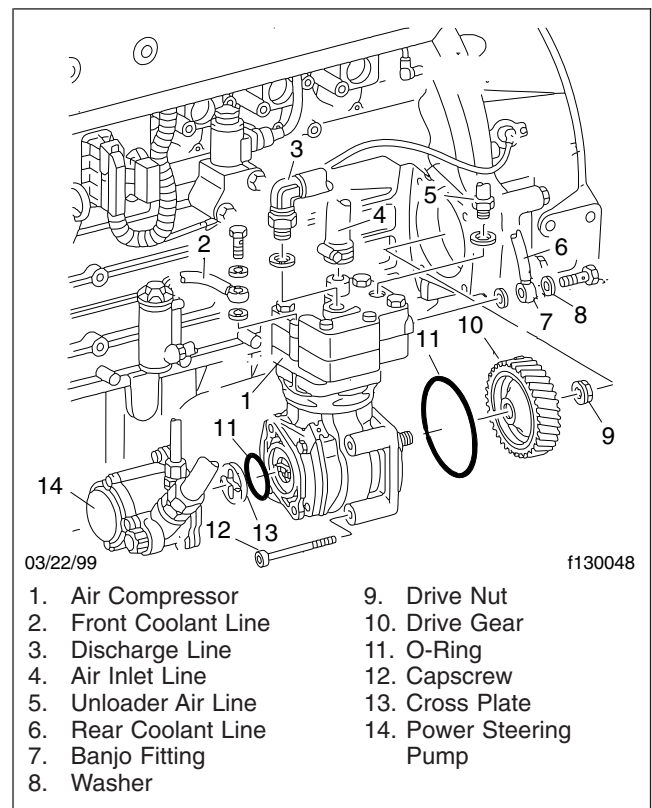

Fig. 1, Air Compressor Installation
6. Disconnect the discharge line from the air compressor and move it away from the compressor. See Fig. 1.
13. Remove the cross plate between the compressor and the power steering pump. See Fig. 1.